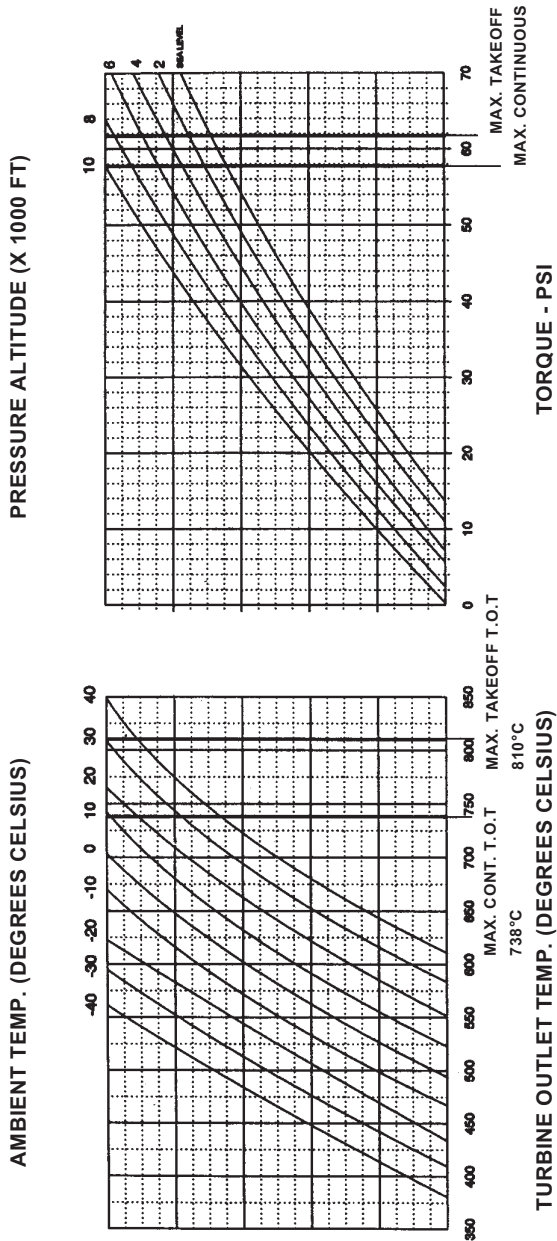

Figure 5-8. Power Check Chart - Rolls Royce 250-C20W Engine
- • For aircraft configured with internal plenum inlet screen see Figure 5-8.